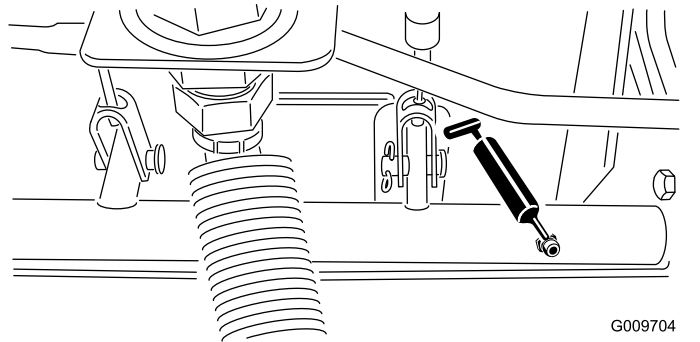

Figure 21
- Brake shaft pivot bearings (5) (Figure 21)